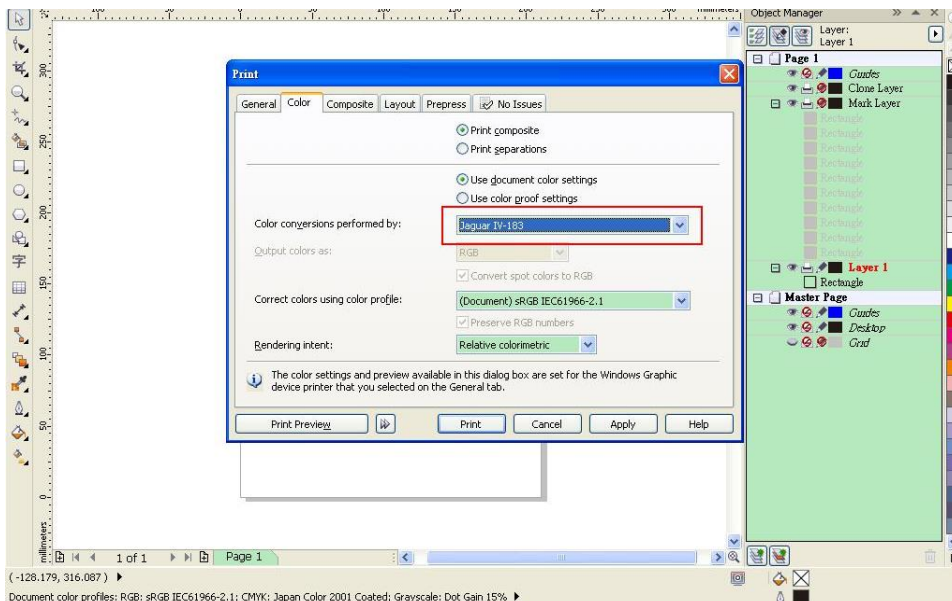

Figure A3-14
Step 1 Click the “color” page and go to the “Color conversions performed by:” and then select the model name of cutter (please refer to Figure A3-14).